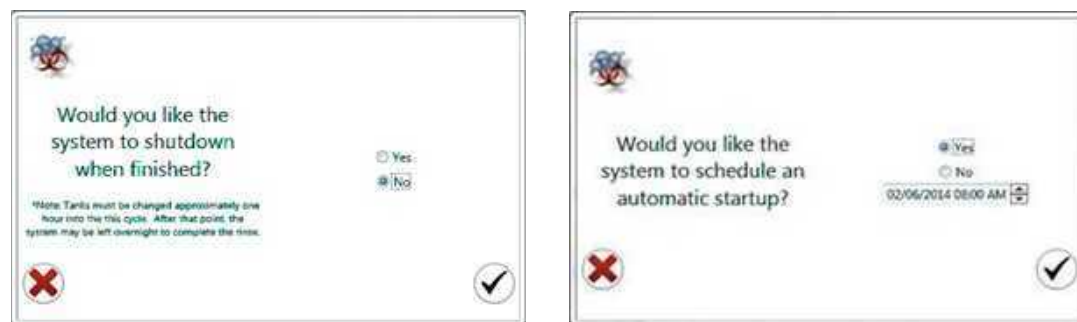

Fig. 129. Automatic shutdown and automatic startup option in the decontamination procedure.
3. Choose whether the system should be shut down after decontamination has completed (Figure 129).
5. Select whether or not an automatic startup should be scheduled (Figure 129).